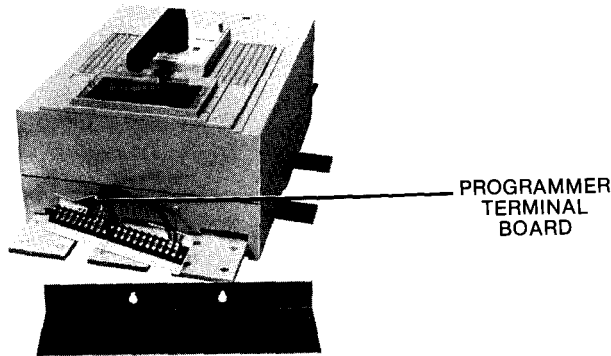

Figure 5. 2500A Frame MicroVersaTrip
4. On front-connected 2500-4000 Amp frames (Fig. 5),